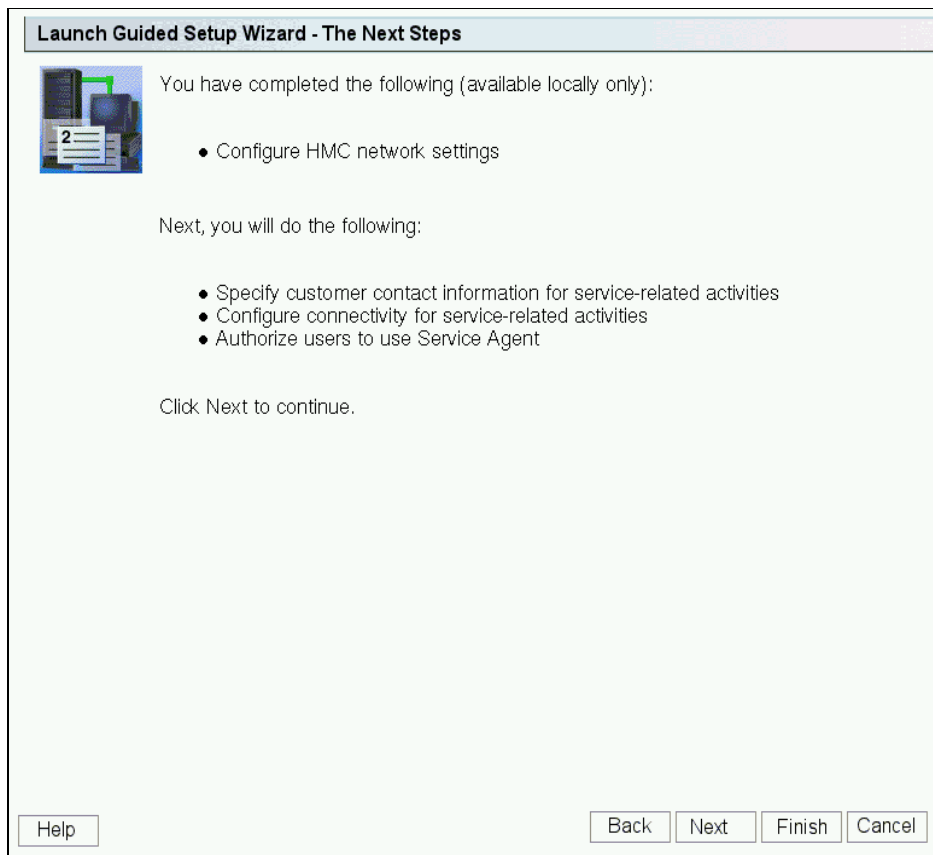

Figure 3-32 Launch Guided Setup Wizard - The Next Steps
25. The Launch Guided Setup Wizard - The Next Steps panel displays (see Figure 3-32). This completes the network configuration section of the Guided Setup wizard. We now continue with the next part of the wizard.